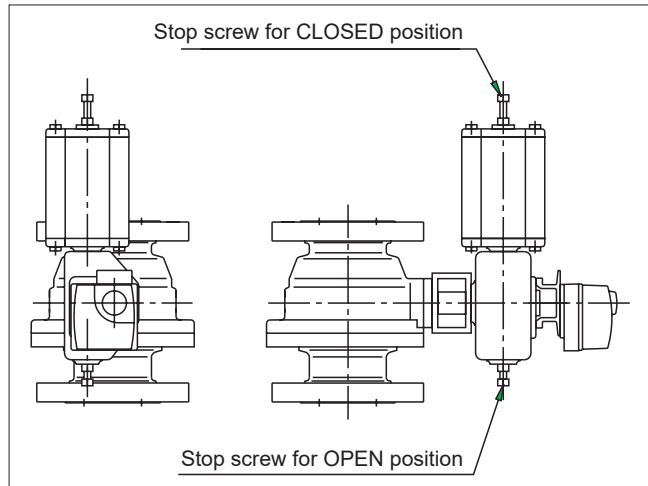

Fig. 23 Open and closed positions of the B1C/B1J actuator
- Adjust the ball open and closed positions by means of the actuator stop screws located at both ends (see Fig. 23). An accurate open position can be seen in the body flow bore. Check that the yellow arrow on the actuator indicates the ball flow opening position. **Keep fingers out of the flow bore!** There is no need for stop screw adjustment if the actuator is re-installed in the same valve. Drive actuator piston to the housing end (open position). Turn the actuator by hand until the valve is in the open position. Fasten the actuator in this position as explained above.